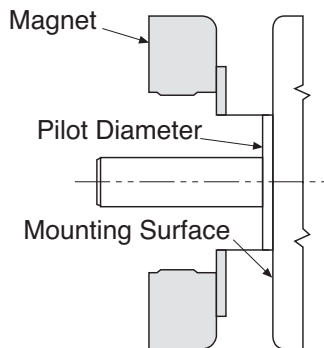

Figure 1
1. A pilot diameter on the mounting surface is essential to hold the magnet within the required tolerances. (See Figure 1)
2. A machined pilot diameter is provided on the magnet mounting flange (See Figures 1, 2, & 3) to aid in the proper positioning of the magnet.